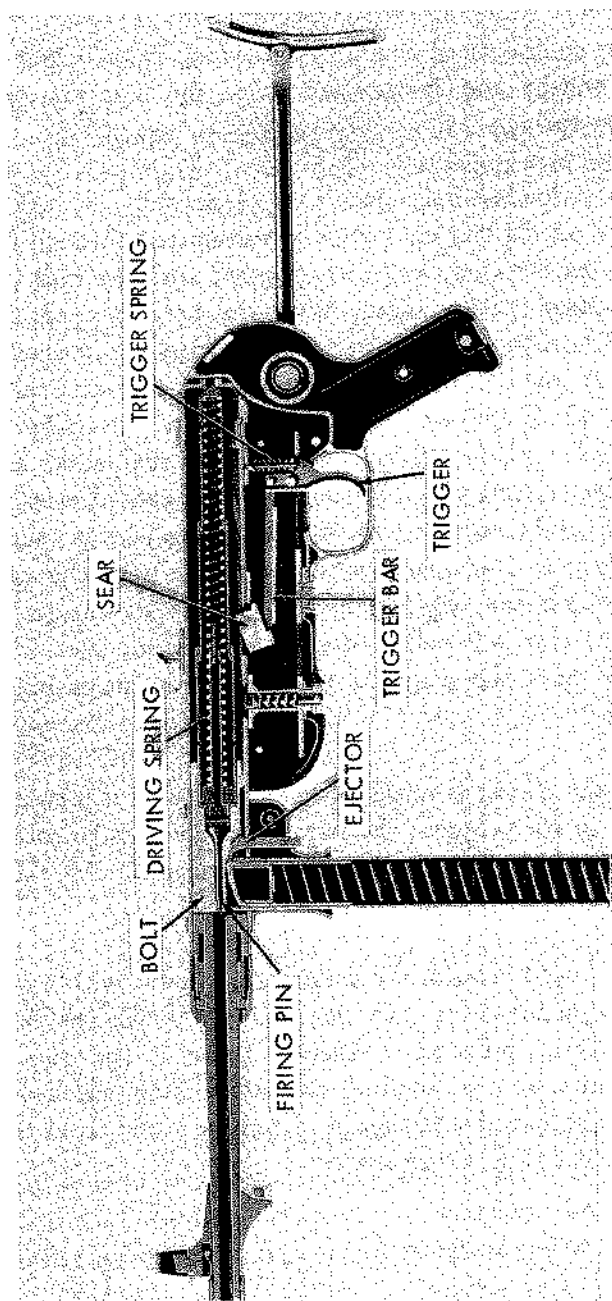

Figure 50. MP40 section.
b. When a loaded magazine is in place and the bolt is cocked, pressure on the trigger, which is transmitted through the trigger bar, rotates the sear out of engagement with the bolt (fig 50). The compressed driving spring drives the bolt forward; the feed rib on the bolt drives the top cartridge from the magazine into the barrel. As the bolt continues forward, the extractor snaps over the rim of the cartridge, and the firing pin, driven by its inertia and the force of the driving spring, strikes the primer and fires the cartridge. Acting like a piston, the fired cartridge drives the bolt rearward and compresses the driving spring. The extractor holds the cartridge case in place in the bolt face until the case strikes the fixed ejector (fig 50) in the rear of the magazine housing. Then the case is expelled through the ejection port. This cycle is repeated until the trigger is released or the magazine is emptied.
c. When the trigger is released, its spring moves it forward, and this action, in turn, moves the trigger bar forward to rotate the sear up to a point where the bolt can be engaged, and, thus, the firing can be stopped (fig 50).